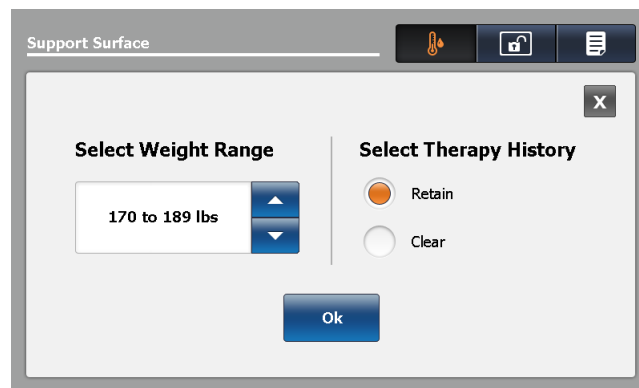

Figure 49: Surface setting screen
1. Tap the up and down arrows to select the desired weight range (Figure 49 on page 64).
Tap **Retain** to keep therapy history (see Figure 49 on page 64).
Tap **Clear** to delete therapy history (see Figure 49 on page 64).